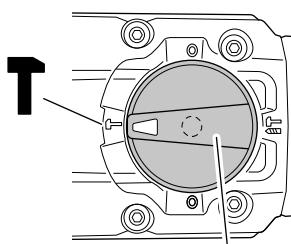

Fig. 13
(1) Switching to "hammering"
- (b) Align ▲ of the selector lever and **T** of the crank cover as illustrated in Fig. 13.